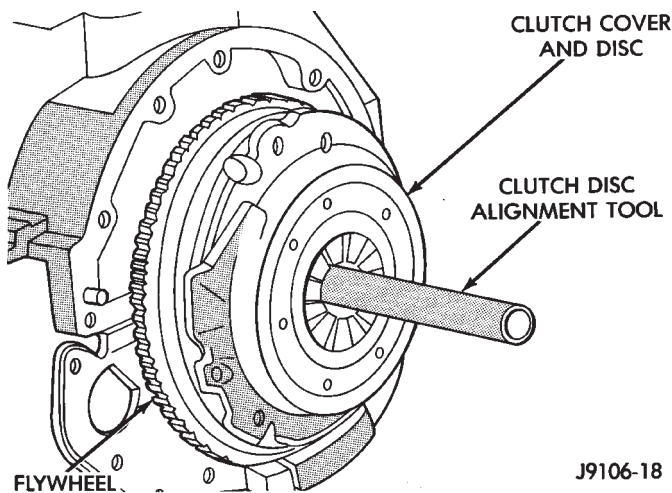

Fig. 3 Typical Method Of Aligning Clutch Disc
(5) Insert clutch alignment tool in clutch disc (Fig. 3).
(7) Position clutch cover over disc and on flywheel (Fig. 3).
(8) Install clutch cover bolts finger tight.
(9) Tighten cover bolts evenly and in rotation a few threads at a time. **Cover bolts must be tightened evenly and to specified torque to avoid distorting cover. Tightening torques are 31 N·m (23 ft. lbs.) on 2.5L engines and 54 N·m (40 ft. lbs.) on 4.0L engines.**
(10) Apply light coat of Mopar high temperature bearing grease to pilot bearing hub and splines of transmission input shaft. **Do not overlubricate shaft splines. This will result in grease contamination of disc.**